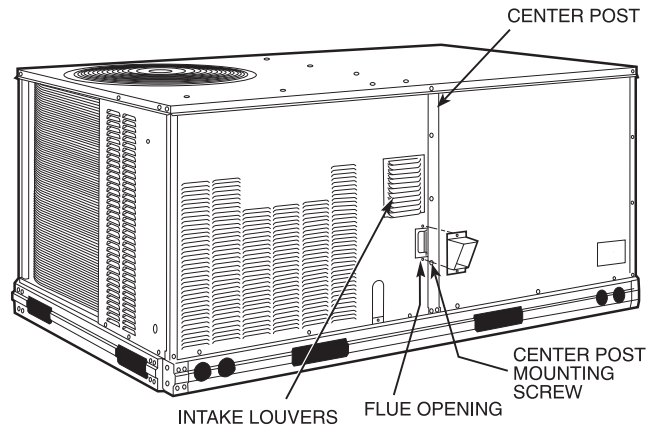

Fig. 4 - Flue Shield Installation (Serial Numbers 1495G and Later)
3. Remove the second screw up from the bottom on the center post. (See Fig. 4.) Save screw.